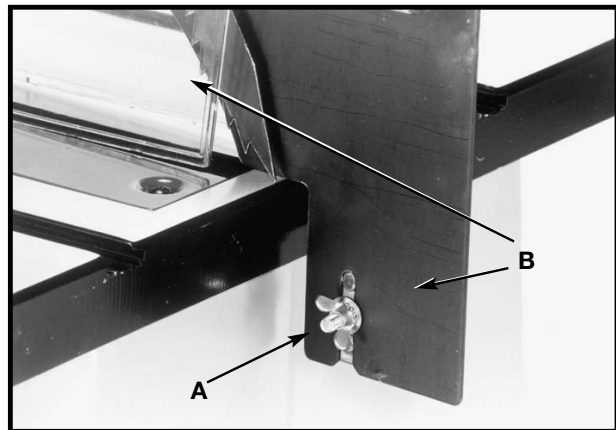

Fig. 52
Before dadoing, loosen wing nut (A) Fig. 52 and take off the blade guard and splitter assembly (B). Keep assembly handy to replace it after dadoing.